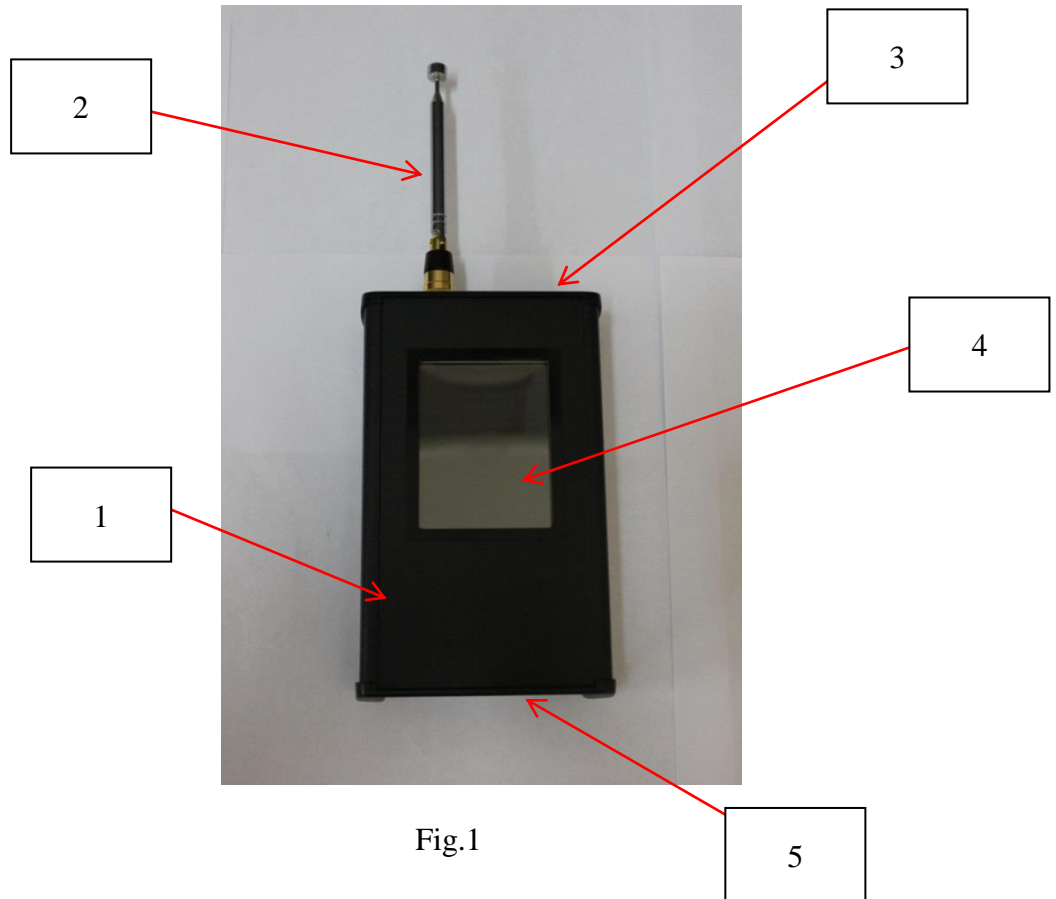

Fig.1
5.1. External appearance of the Device is shown in Fig. 1.